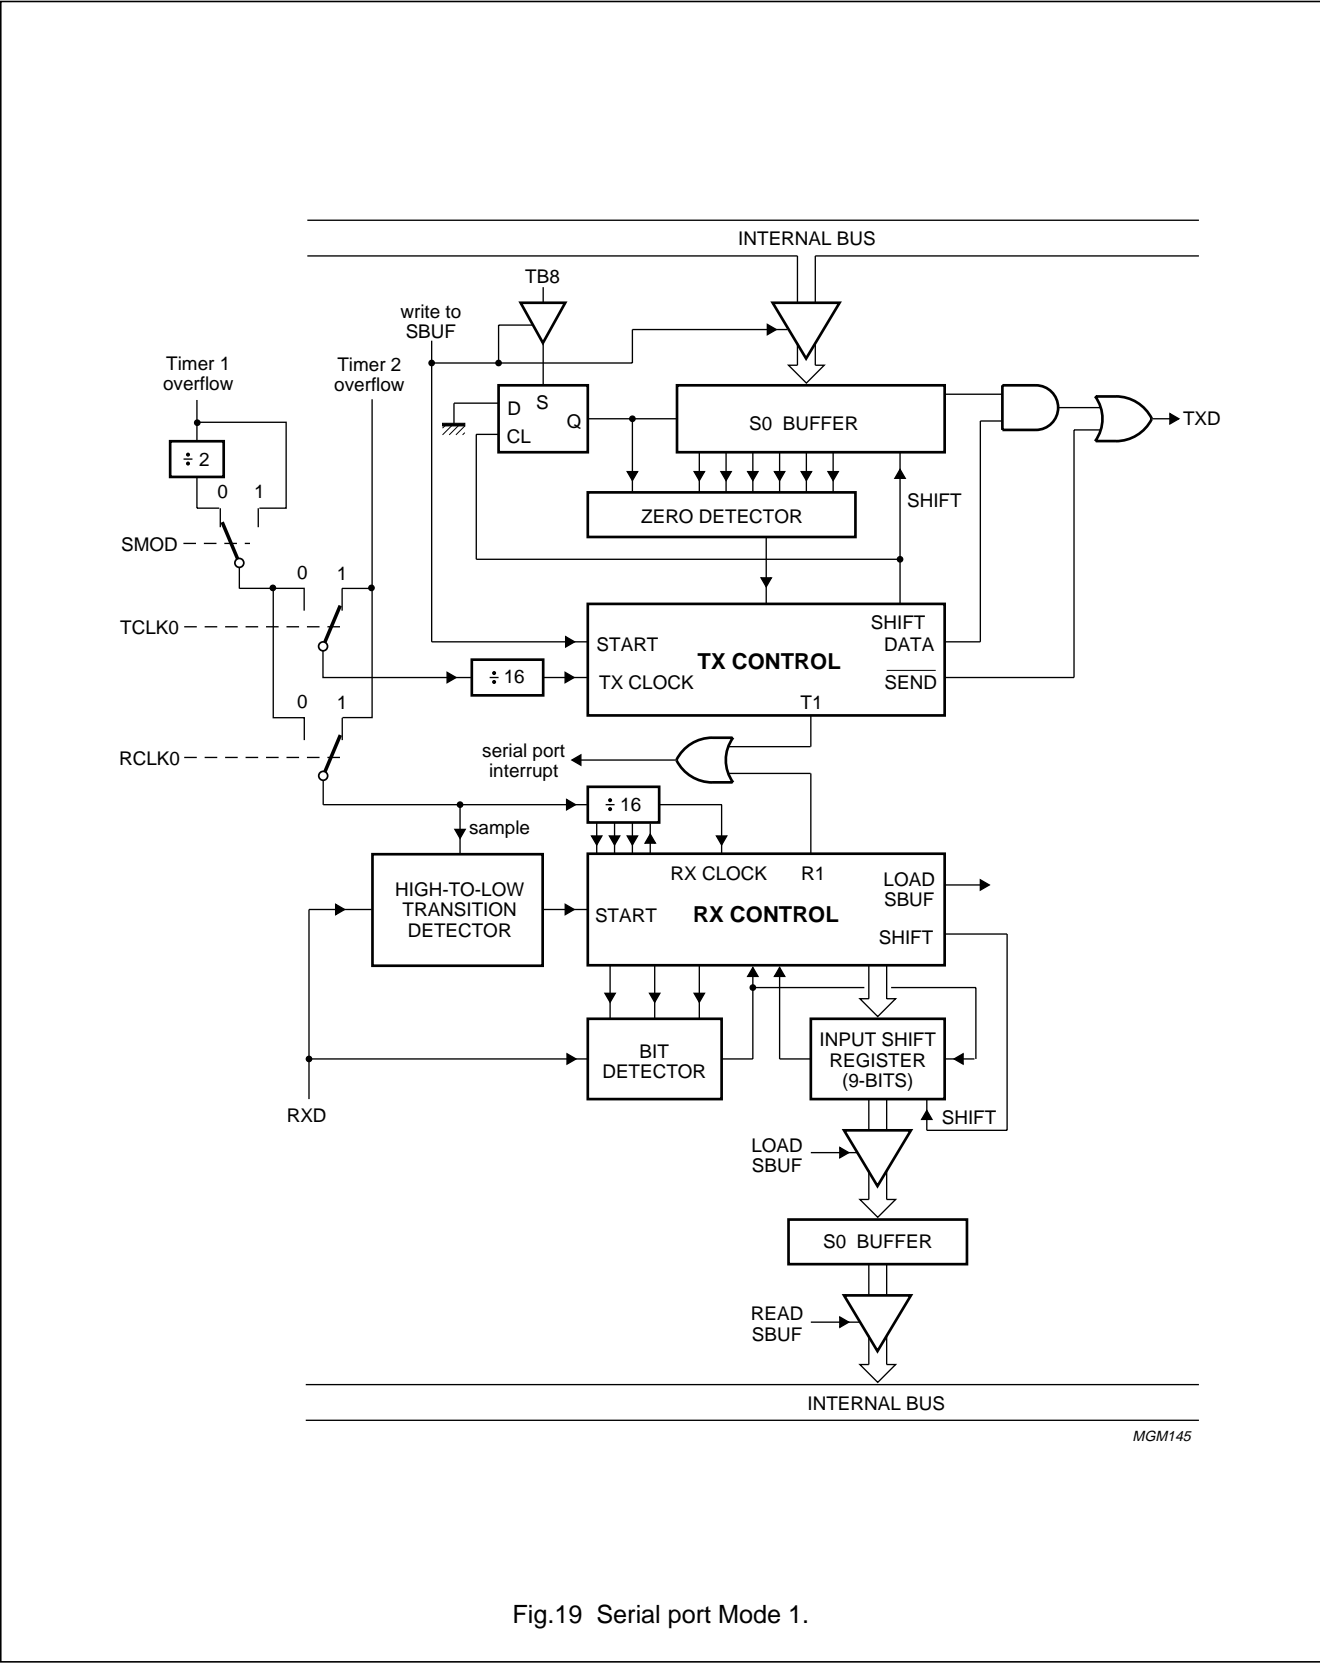

Fig.19 Serial port Mode 1.
- Mode 1 10 bits are transmitted (through TXD) or received (through RXD): a start bit (logic 0), 8 data bits (LSB first), and a stop bit (logic 1). On receive, the stop bit goes into RB8 in the SFR S0CON. The baud rate is variable. See Figs 19 and 20.